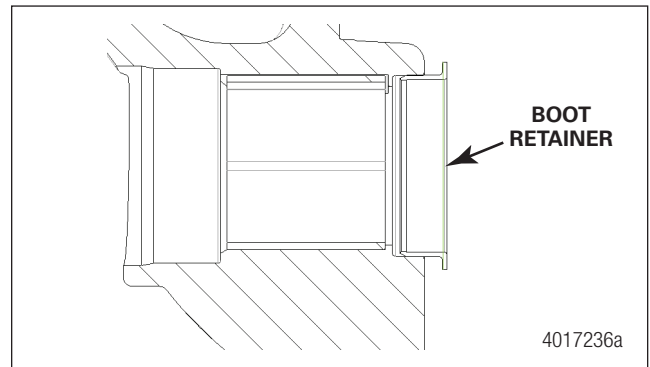

Figure 8.12 Slide Pin Bushing Retainer
1. Place the retainer onto a suitable driver from Meritor tool MST 1000. Figure 8.12.